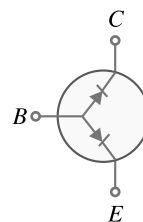

Fig. 6.54
*emitter diode*. The junction between base and collector may be called *collector diode*. We have seen above that transistor can act in one of the three states : **cut-off**, **saturated** and **active**. The state of a transistor is entirely determined by the states of the emitter diode and collector diode [See Fig. 6.54]. The relations between the diode states and the transistor states are :